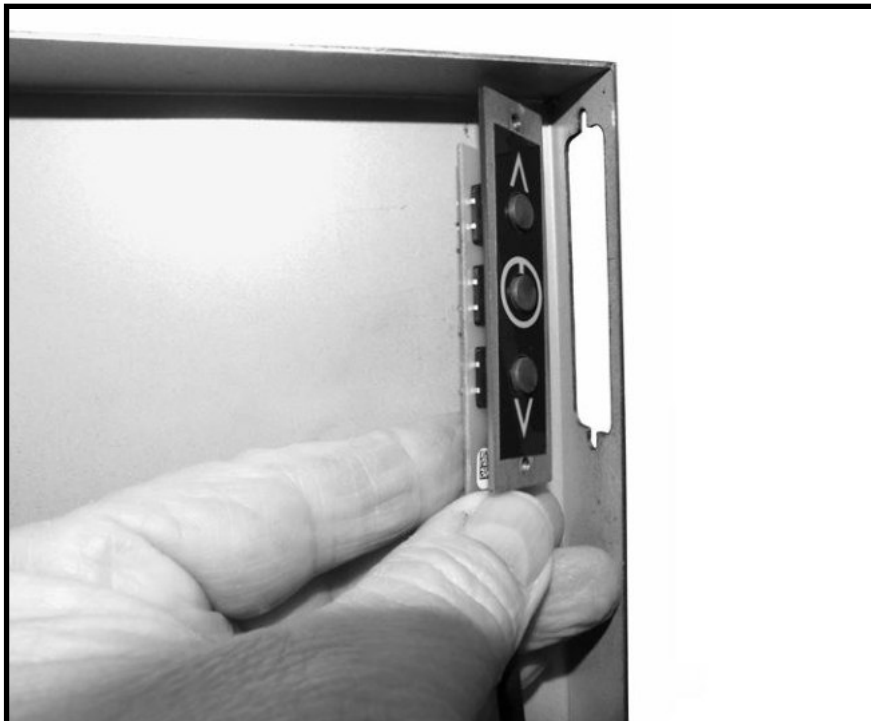

Figure 86: Positioning the switch behind the backing plate opening slot.
2. Position the ON/OFF switch against the open slot on the surround backing plate. Be sure to orient the switch as shown in (Figure 86).